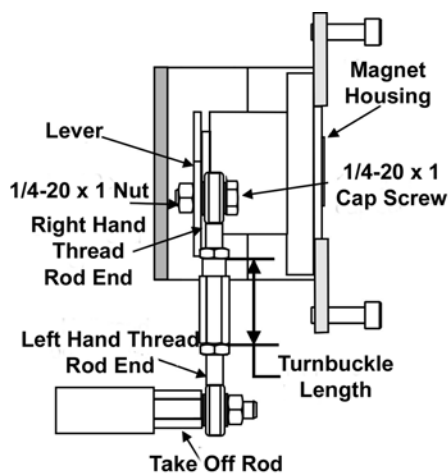

Figure 11 Reciprocating Linkage
4. Thread the take-off rod to the actuator stem connector. Refer to Figure 11 on page 20. Ensure that the travel pointer located on the coupling is correctly positioned.
10. Thread the turnbuckle onto the left hand threaded rod end. Refer to Figure 11 on page 20.